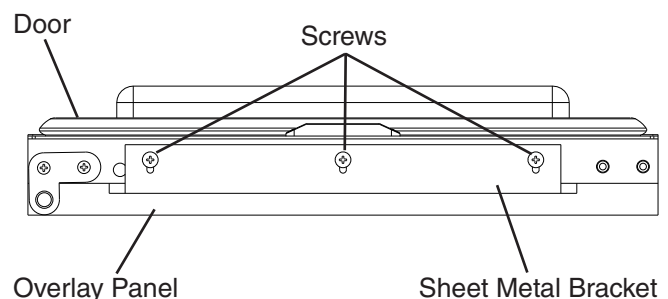

Fig. 18
- 6) Fasten the sheet metal bracket to the bottom of the door with the three T2 screws provided. Tighten the screws to the door. See Fig. 18.